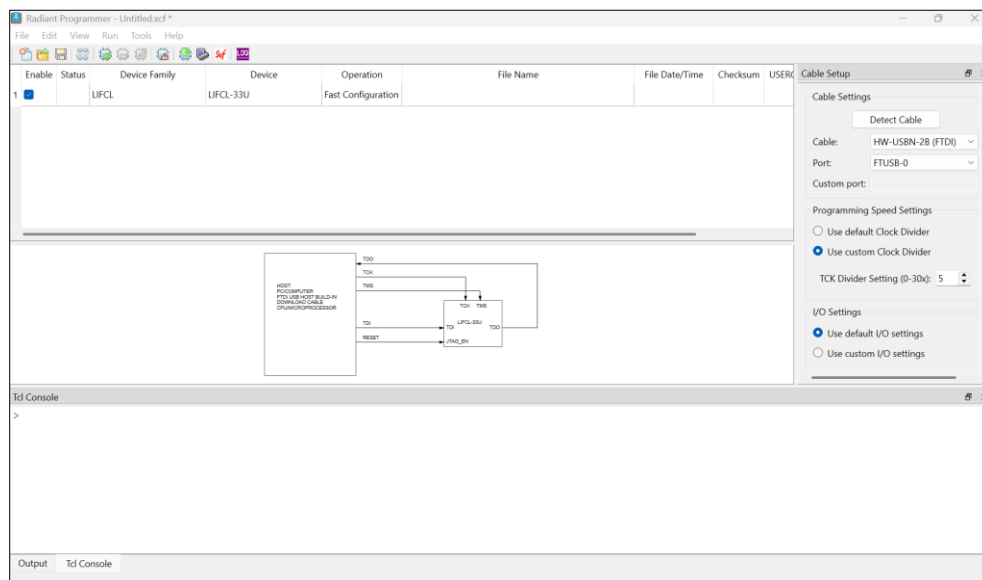

Figure 6.7. Lattice Radiant Programmer Window
4. The Radiant Programmer main interface opens, as shown in Figure 6.7.